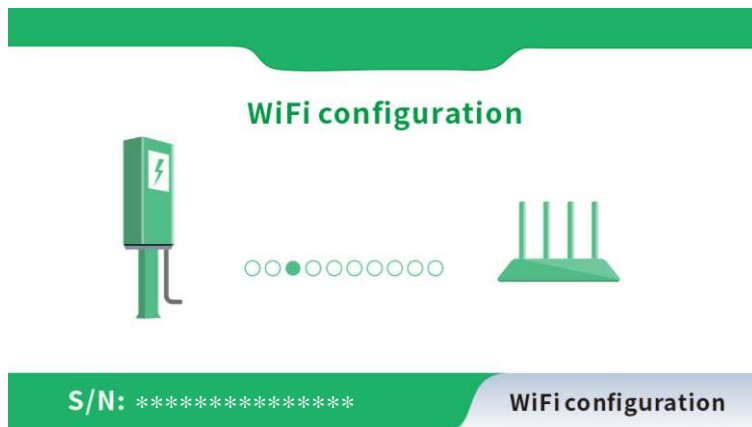

Fig. 6-5 The WiFi configuration page
- f) Press and rotate to reset the emergency stop button 3 times in a row until the four indicator lights turn on in a cycle according to the running lamp mode. At the same time, the LCD (if any) screen will switch to the WiFi configuration page (shown as Fig. 6-5).